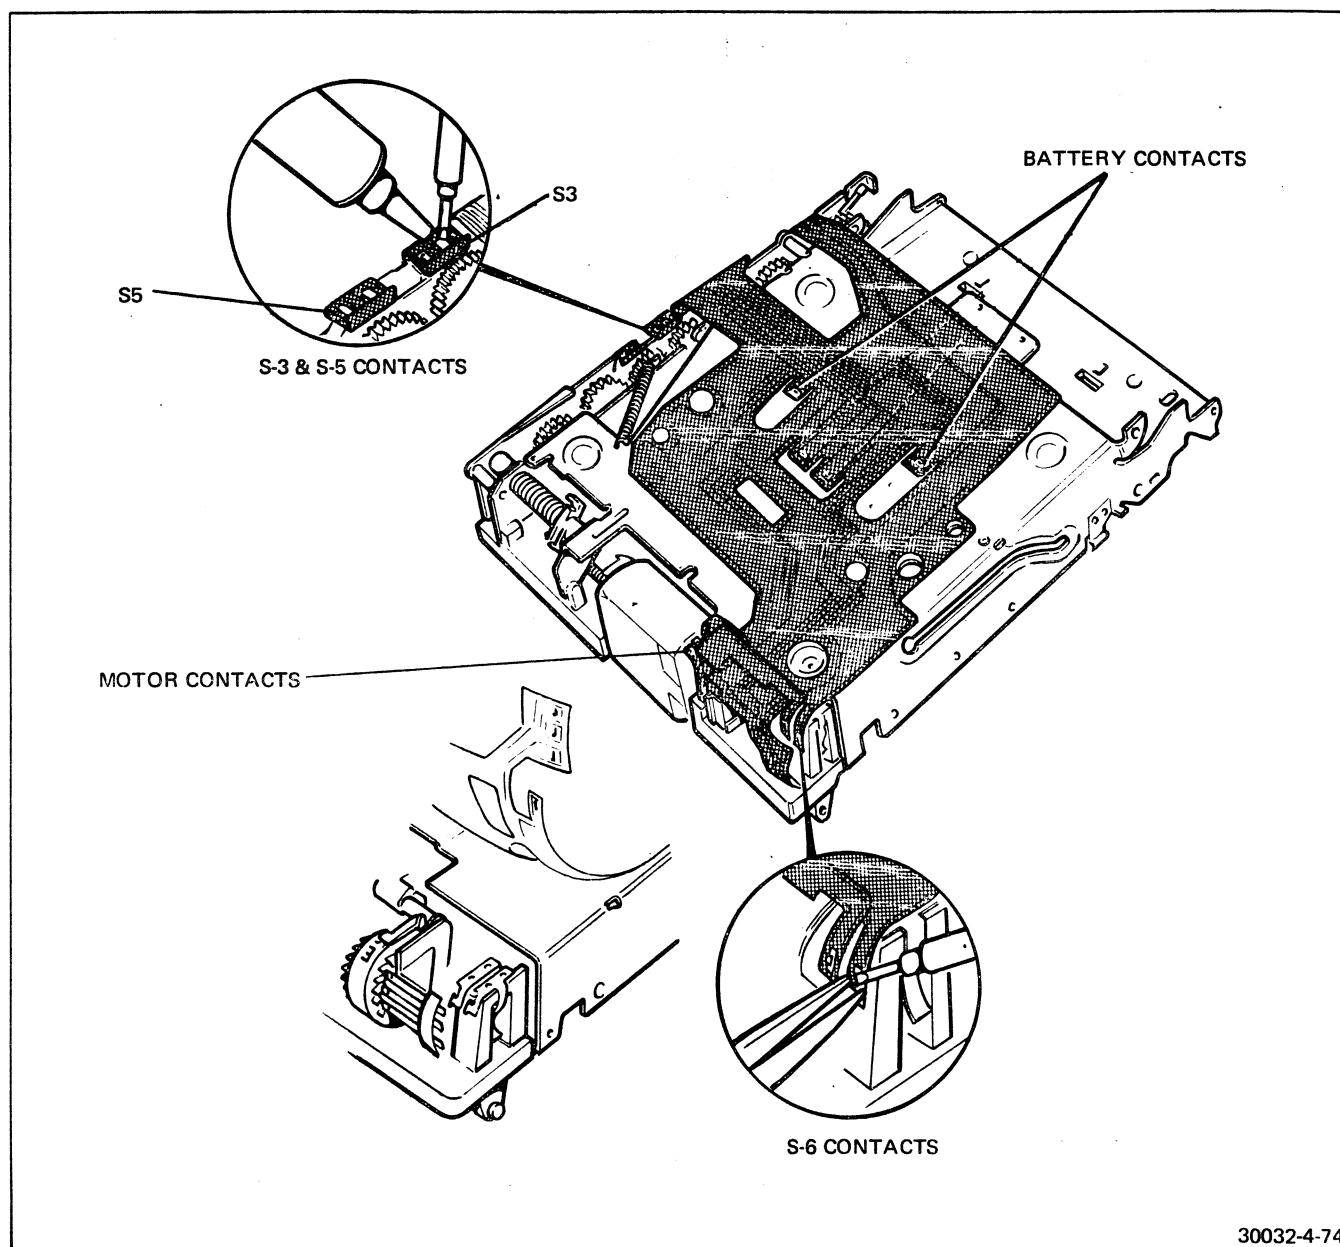

FIGURE 4-74 SOLDER POINT IDENTIFICATION
14. Using a solder remover, remove the solder from the two battery contacts. See Figure 4-74. In most cases, removing the solder will not completely free the flex circuit connections. Use tweezers and a soldering iron, heat the connection, and lift off the flex with the tweezers.
15. Using the solder remover and, if necessary, the tweezers and soldering iron, unsolder the S6 contacts. See Figure 4-74.
17. In like manner, disconnect the two motor contacts. See Figure 4-74.
22. Dress the end of the flex circuit tab between the third switch contact and the inner surface of the frame. See Figure 4-74.